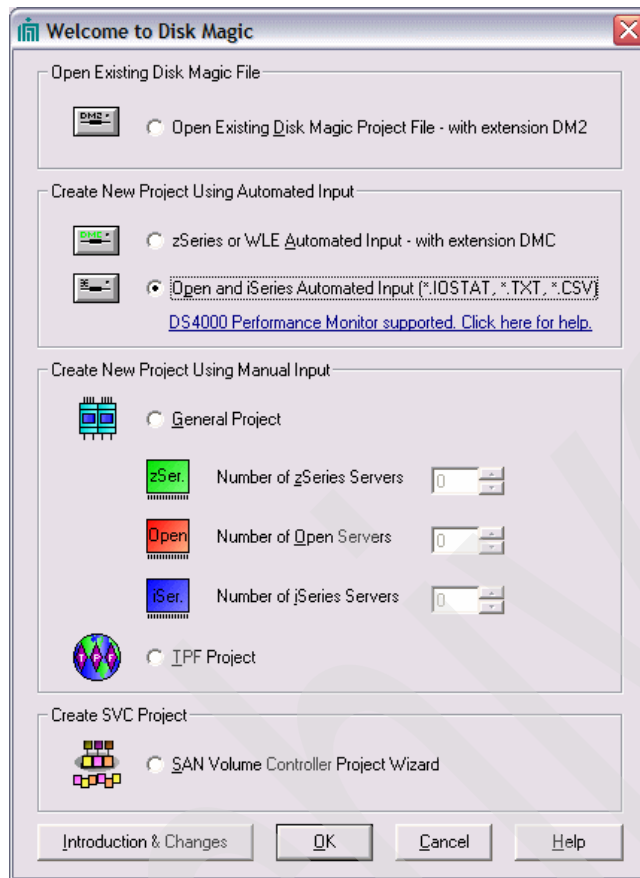

Figure 4-17 Disk Magic Welcome dialog box
1. On the Welcome to Disk Magic panel (Figure 4-17), select **Open and iSeries Automated Input (\*.IOSTAT, \*.TXT, \*.CSV)** and click **OK**.